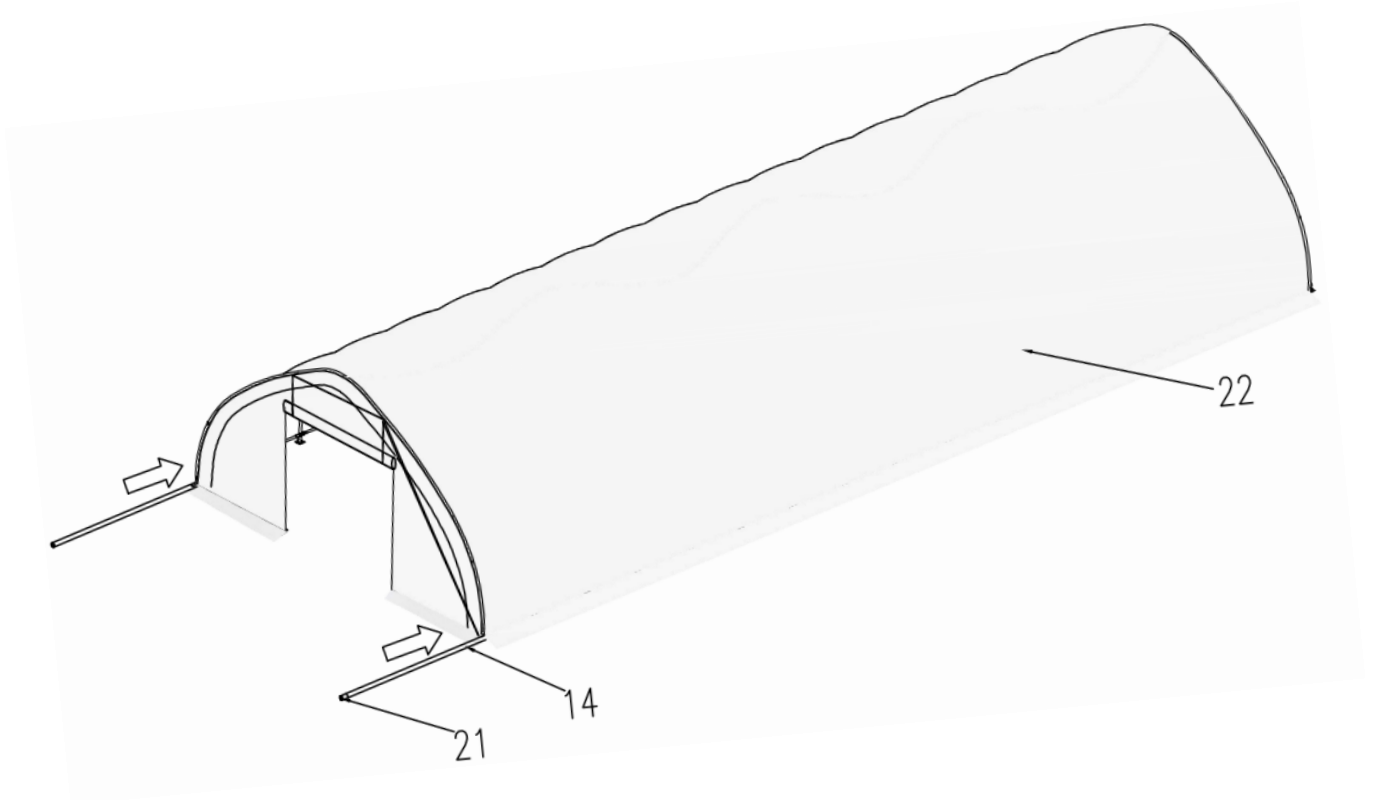

Figure 13
Step 10 : Tension the cover on the structure from both sides (figure 13)